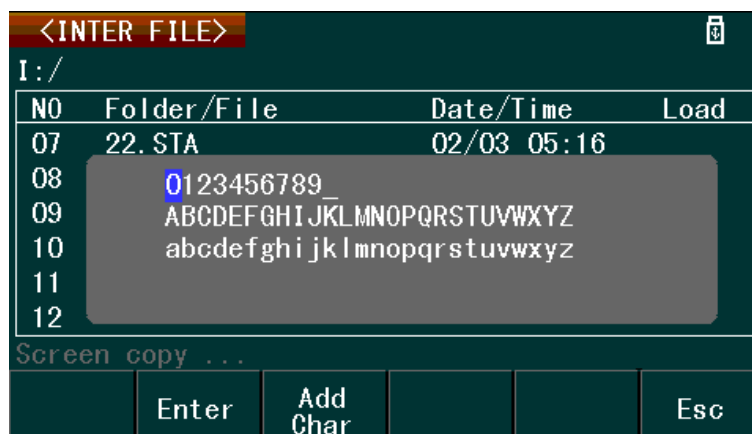

Figure 4.5: Setting the External File Name
4. The message prompt will then say "Input FileName:". An on-screen soft keyboard is displayed prompting the operator to enter a file name where the instrument settings will be saved. See Figure 4.5